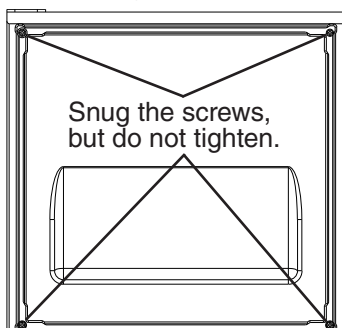

**Fig. 15**
- 3) Adjust the sheet metal bracket so that it is flush with the bottom of the door. See Fig. 15.